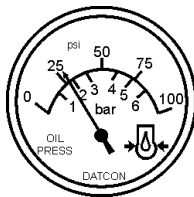

Figure 26. Oil Pressure Gauge
15. The engine oil pressure gauge (Figure 26) will indicate the oil pressure (kg/ cm²) of the engine. Under normal operating conditions the oil pressure is approximately 25 psi.